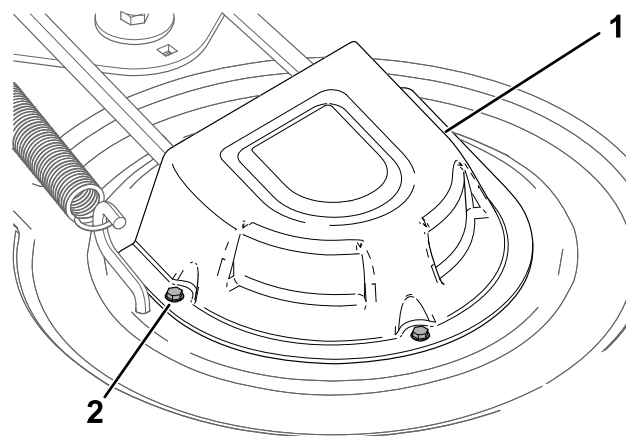

Figure 54
4. Loosen the screws and remove the pulley covers (Figure 54).